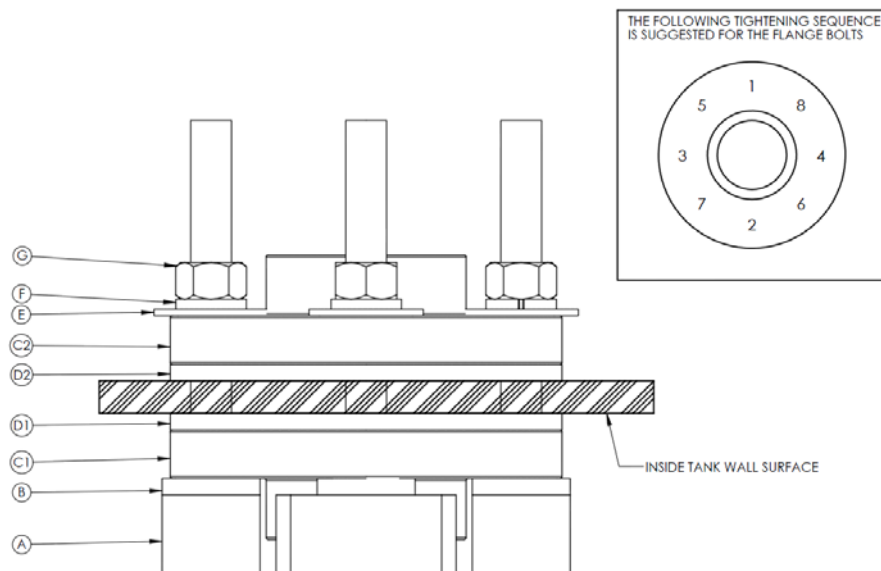

Figure 6.2
6.3.1 The bolted flange fitting shall be constructed with 2 ea. 150 lb. flanges (C1 and C2), 2 ea. 150 lb. flange gaskets (D1 and D2), the correct number of full threaded bolts (A), bolt gaskets (B), flat washers (E), lock washers (F), and hex nuts (G) for the flange specified. NOTE: If the tank wall thickness is greater than or equal to 0.75", fittings with stainless steel bolts will require longer bolts for installation. Consult with the factory for the correct part number when ordering long-bolted flange fittings. Refer to Figure 6.2 for part identification.
6.3.2 Disassemble the fitting as shipped by removing the bolt's hex nuts, lock washers, flat washers, outer flange, and outer flange gasket. Locate the fitting hole on the inside of the tank and insert the bolts (still installed on the inner flange and gasket) through the drilled holes in the tank. Place the outer flange gasket over the bolts on the outside surface to the tank. Place the outer flange over the outer gasket and bolts. Install the flat washers, lock washers, and hex nuts on the bolts. Check to make sure the fitting assembly appears as shown in Figure 6.2.